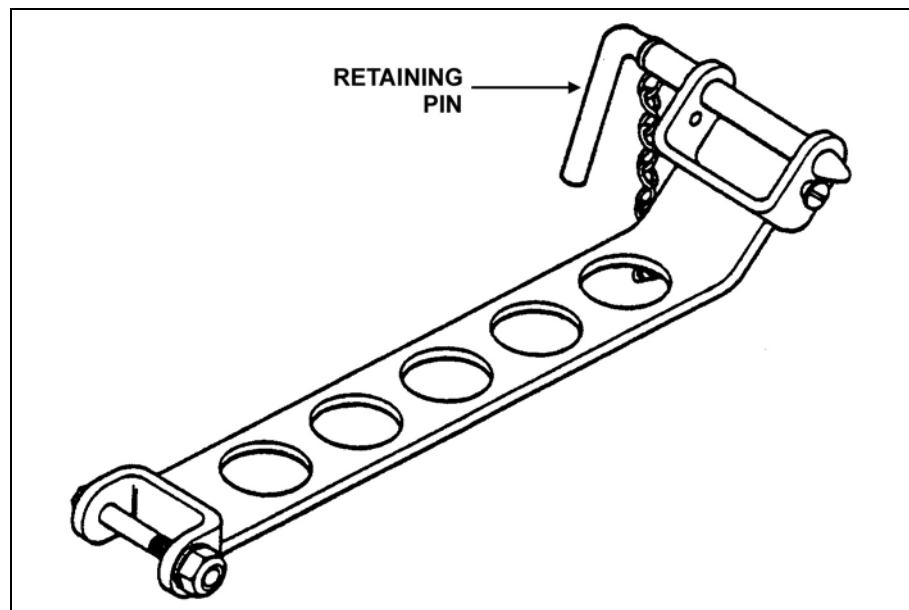

Figure 3-16. Travel lock adapter.
(4) **Travel Lock Adapter.** This adapter is used to hold the gun cradle securely during travel. It is attached to the gun cradle by a retaining pin, which is inserted through the gun cradle train and elevating mechanism mounting holes (Figure 3-16).